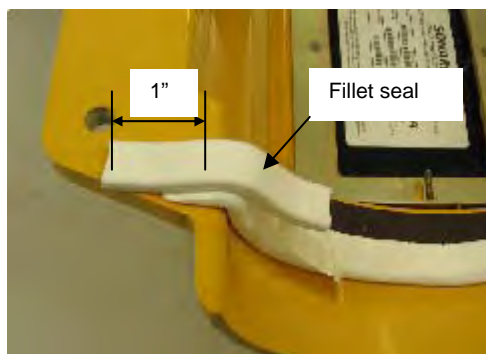

Figure 9
- d. Start the taper cut on the fillet seal at the 1" mark and end it such that it extends 1/8 – 1/4" beyond the end of the end seal taper cut. Remove excess material. See Figure 9.